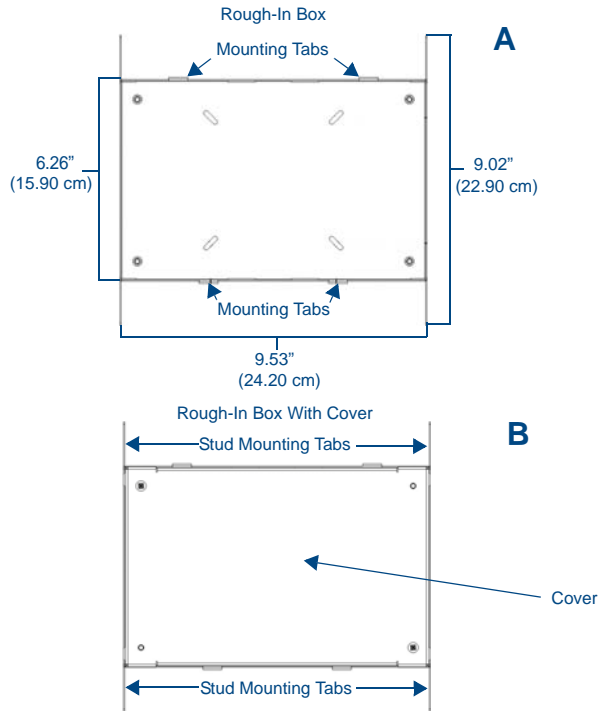

FIG. 1 CB-MSA-10 Rough-In Box - with front cover
- Remove the rough-in box cover (**B** in FIG. 1) before installation of the Rough-In Box (**A**). **Note:** the cover *MUST* be removed before drywall installation. The cover may be reinstalled after drywall installation using 4-40 screws (not included). The mounting tabs on the front of the rough-in box (**A**) are intended to allow additional anchoring of the rough-in box to its wall, but these can be removed if necessary.
- NOTE:** The front cover of the CB-MSA-10 (**B** in FIG. 1) should be installed after the appropriate wiring is pulled to the Rough-In Box. The cover should then be removed prior to the installation of the touch panel back box and discarded. Do NOT discard the cover screws.